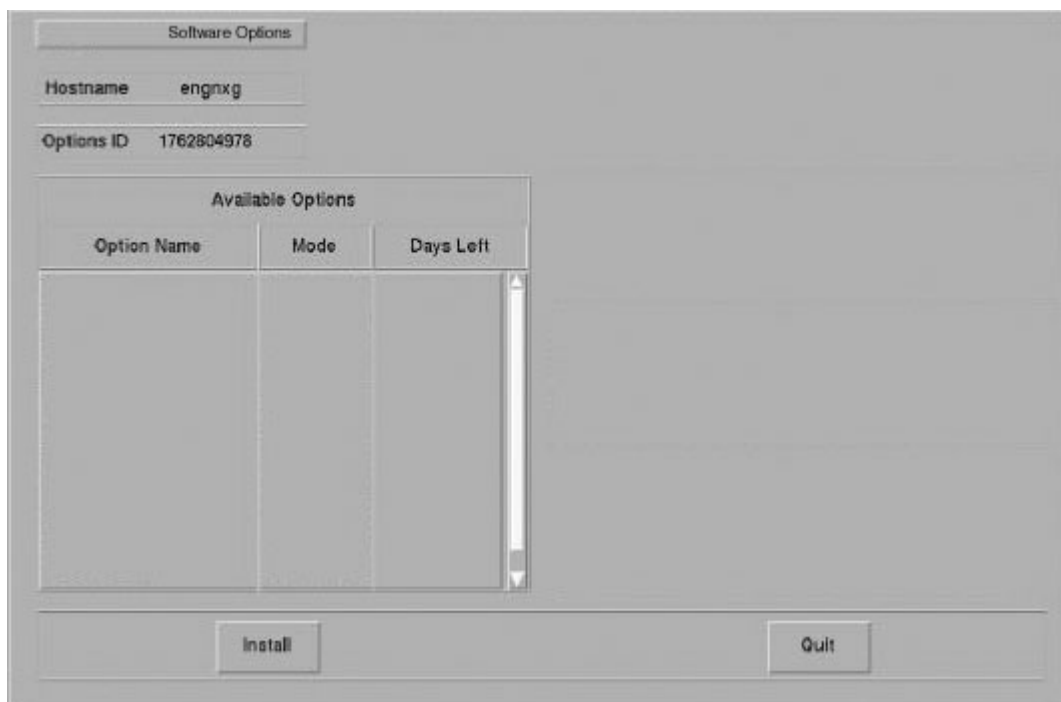

Figure 1-9 Software Options Screen
- 1.) On the Service Desktop, select UTILITIES -> INSTALL -> INSTALL OPTIONS. The Software Options Window appears (see Figure 1-9).
- 2.) Click on the INSTALL button. (see Figure 1-9).